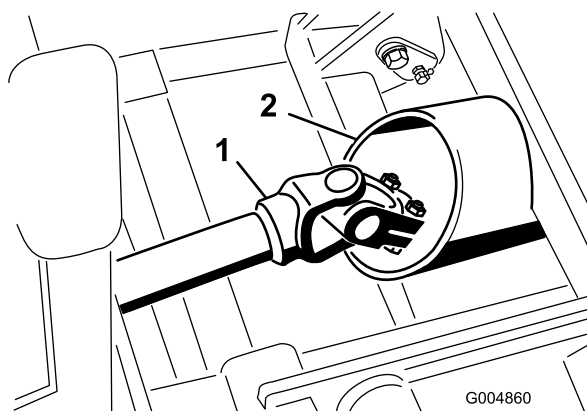

Figure 107
18. Carefully roll the winter frame assembly into position while routing the drive shaft through the frame tube (Figure 107).